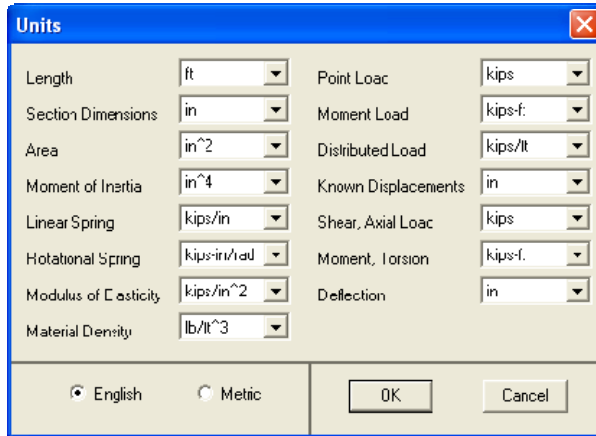

Figure 3-11 Units dialog box
- From the Define menu, select Units. The dialog box of Figure 3-11 appears.